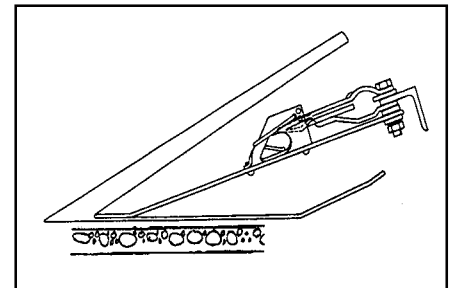

Figure 90.18
6. The bottom runner of the Special Series lifter should be parallel to the ground Figure 90.18. To find the correct mounting position of the lifters for a given platform, drive the combine on to a flat surface (concrete, asphalt). Mount one lifter in the middle of the platform. Lower platform until crop lifter just touches the ground. The runner of the lifter should be parallel to the ground. If it is not, change lock pin positions and if necessary, vary number of flat washers until the correct position is found.